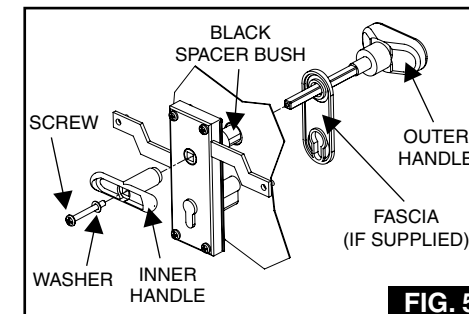

FIG. 5
Check that there is a black spacer bush fitted into face of door (See Fig 5).
b) Remove the screw and washer from the outer handle (See Fig 5) and pass the handle spindle through the lock as shown.